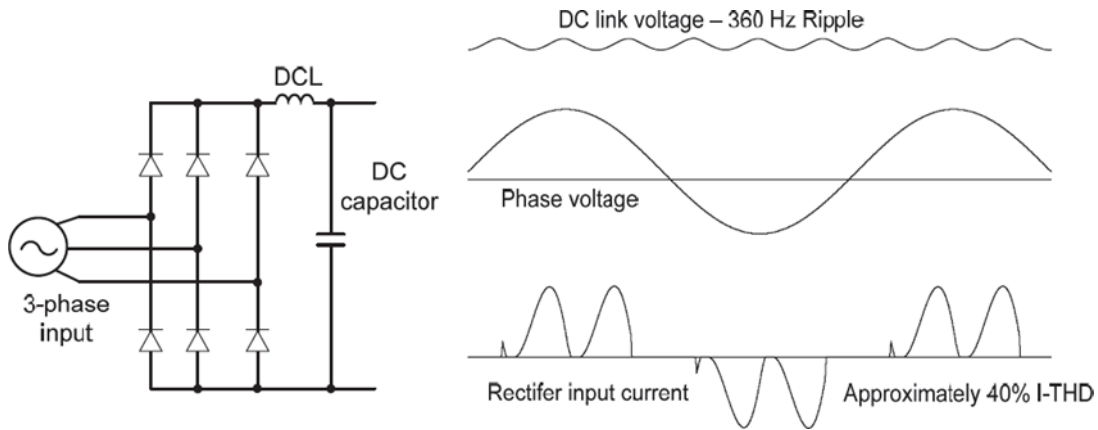
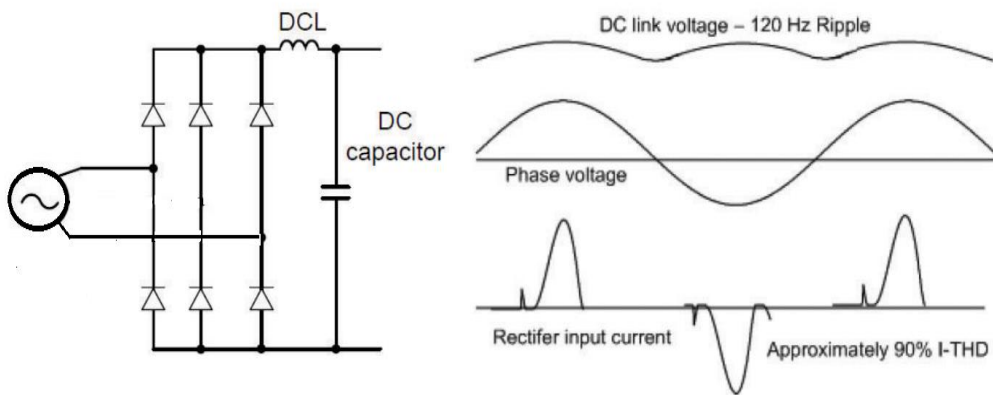

Figure 1. Typical Three Phase Configuration
Figure 2. Typical Single Phase Configuration
- **Frequency** - Refer to Figure 1. Standard Pulse-Width-Modulated (PWM) VFDs use a 6-pulse diode rectifier. The 6-pulse rectification results in 360 Hz DC bus ripple when used with a three-phase 60 Hz power source. However, when a single-phase power source is used (Figure 2.), the DC bus ripple becomes 120 Hz. The result is the DC bus ripple voltage is higher and the DC Bus circuit is subject to higher stress in order for the VFD to deliver equivalent power to the motor.
- **Harmonics** - Refer to Figure 2. Input current harmonics increase resulting in current distortion levels of 90% THD_i and greater compared to approximately 40% with a three-phase power source making the overall input power factor lower. Adding a line reactor (required) helps attenuate harmonics. Size the reactor based on VFD rating.